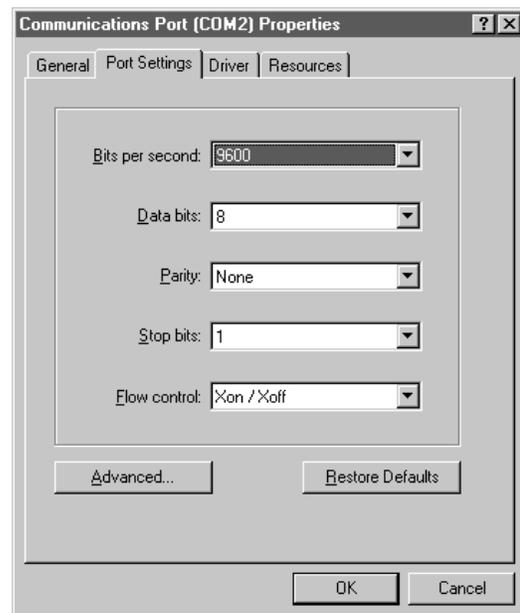

Figure 9-3: COM Port Properties Dialog Box
13. Next, select the Advanced button to bring up the advanced port settings dialog box shown in *Figure 9-3*.